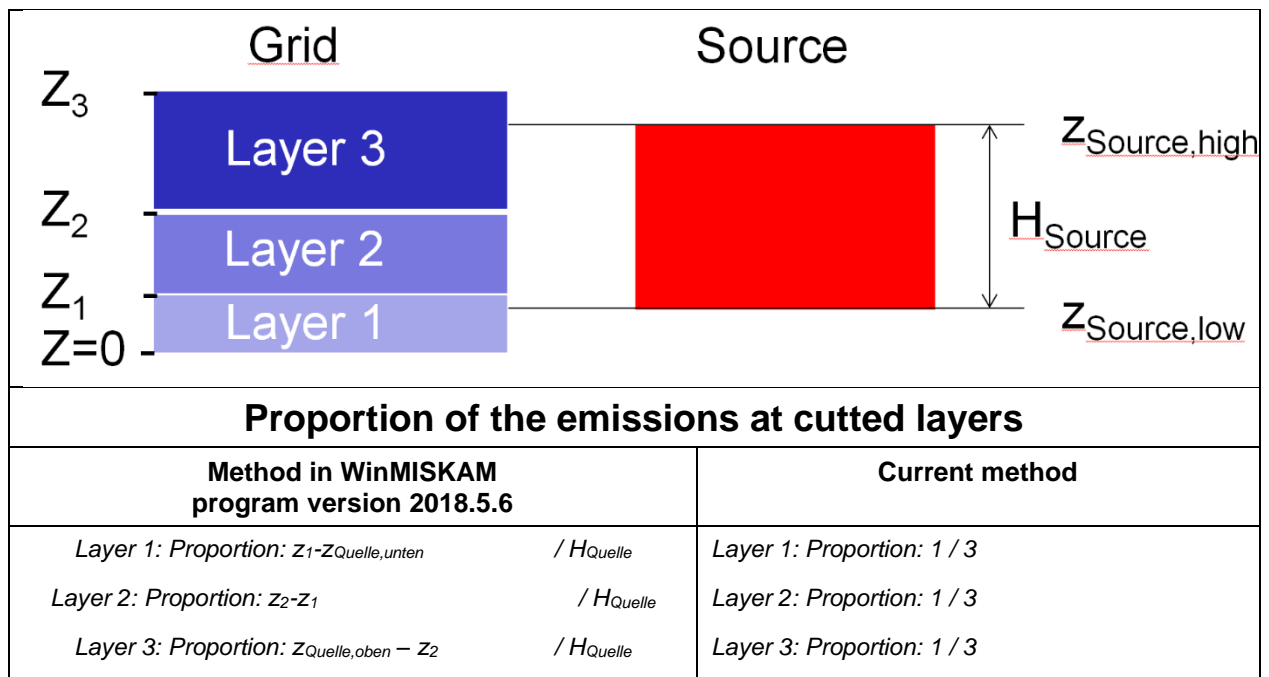

Fig. 0.1: Example for the mapping of sources on the numerical grid of MISKAM in the actual version of WinMISKAM extension module "Line sources"
- All vertical layers which are cutted by volume emissions are assigned by a weighted fraction of the emissions, cf. example in Fig. 0.1. **Important hint: If the lower and/or upper height of the emission source does not match the heights of the layers of the numerical grid of MISKAM, the current method gives another vertical source distribution and thus a different pollutant concentration distribution compared to the previous method. The total amount of pollutants emitted, however, is unaffected.**